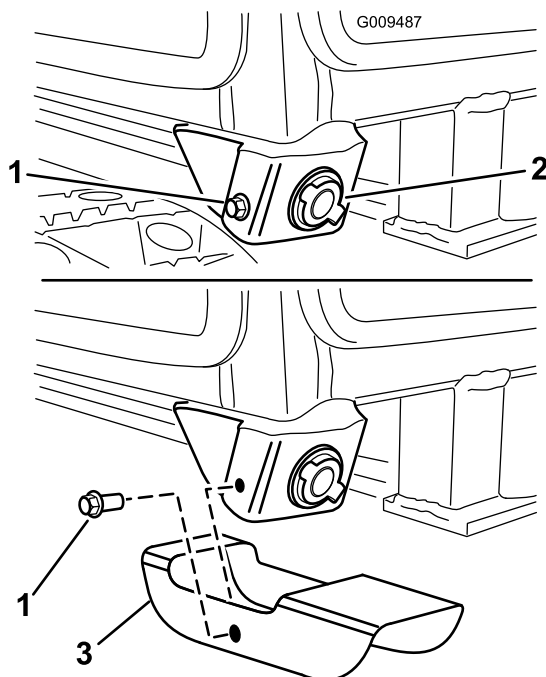

Figure 65
6. Remove the bolt securing the power point assembly to the right front corner of the cab frame (Figure 65).
7. Slide the power point shield up over power point while aligning the shield hole with the hole in the power point assembly plate (Figure 65). The longer end of the shield is to point forward to protect the power point.